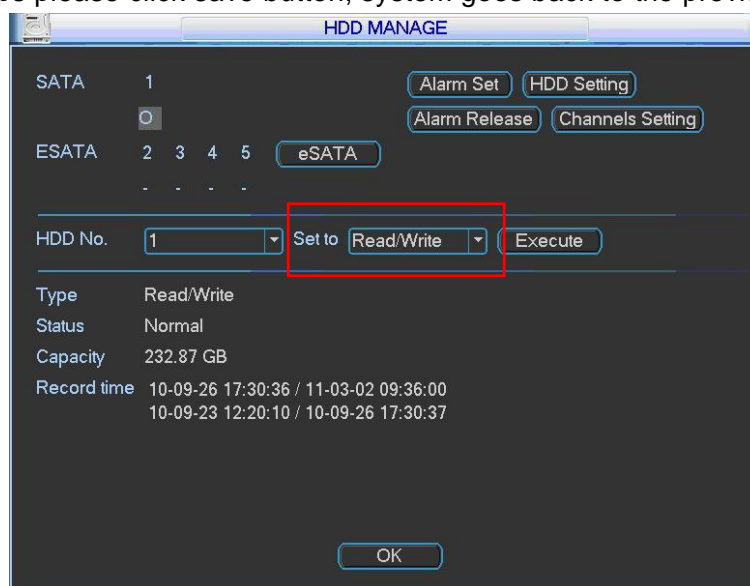

Figure 4-15
In the main menu, from Advanced to HDD management, you can set one or more disk(s) as redundant. You can select from the dropdown list. See Figure 4-15. System auto overwrites old files once hard disk is full.
- Set redundant disk(s) as read-only disk or read-write disk (Main menu->Advanced->HDD management). See Figure 4-15. System needs to reboot to get setup activated. Now you can search or playback file in redundant disk.